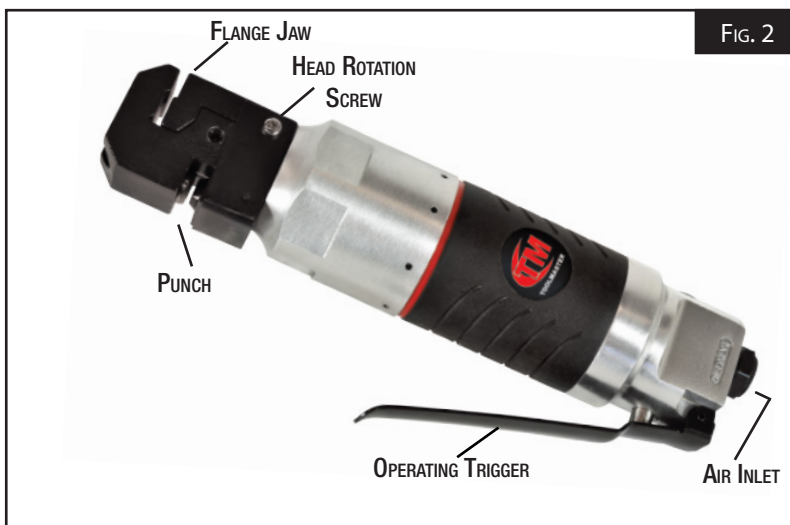

FIG. 2
2. If required, to improve access to the workpiece, the head can be rotated through 360°. To do this, loosen the Head Rotation lock screw and rotate the head. (See Fig.2)
7. Select to use either the Punch or Flange operation. (See Fig. 2)